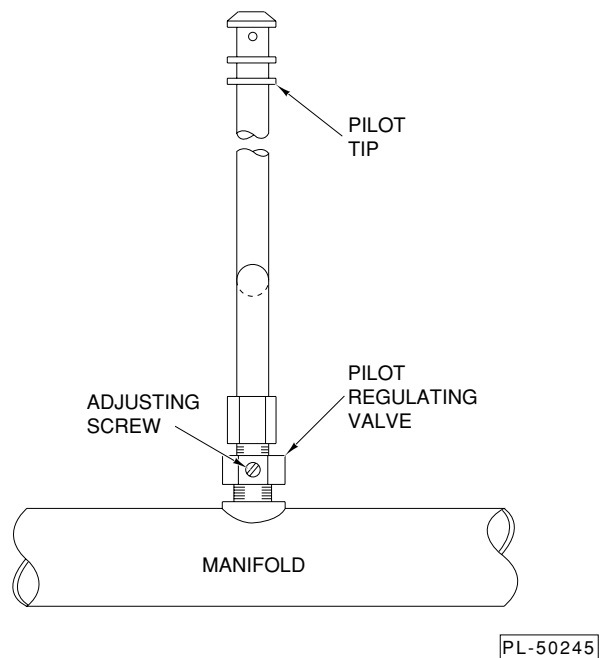

Fig. 3
3. Light the pilot and adjust the pilot regulating valve (Fig. 3) to give a stable pilot flame.